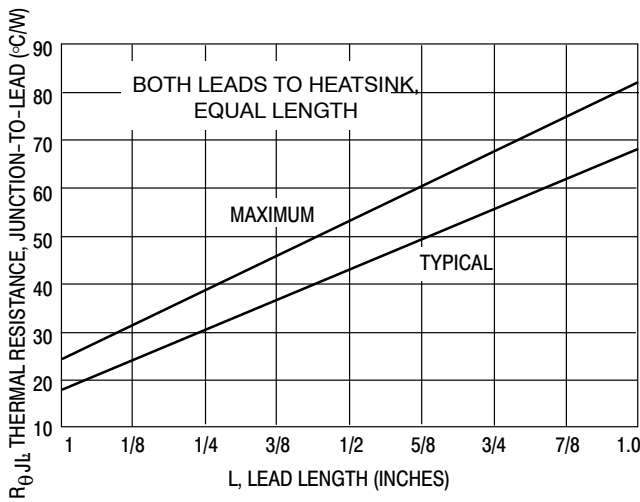

Figure 4. Steady-State Thermal Resistance
Step 3. Find  $P_{F(AV)}$  from Figure 4. \*\*Read  $P_{F(AV)} = 0.5 \text{ W}$